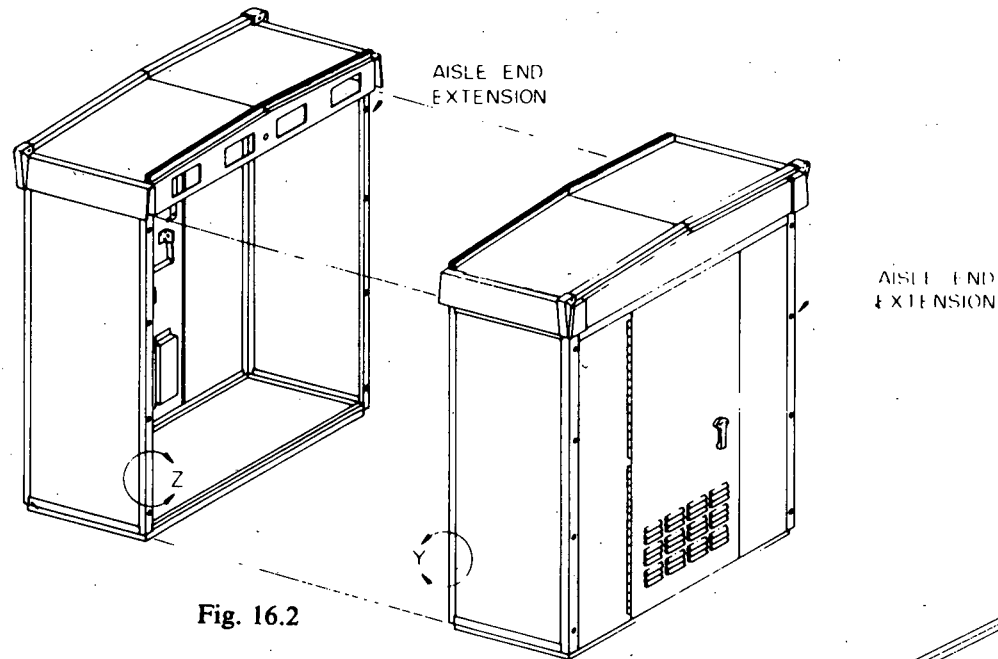
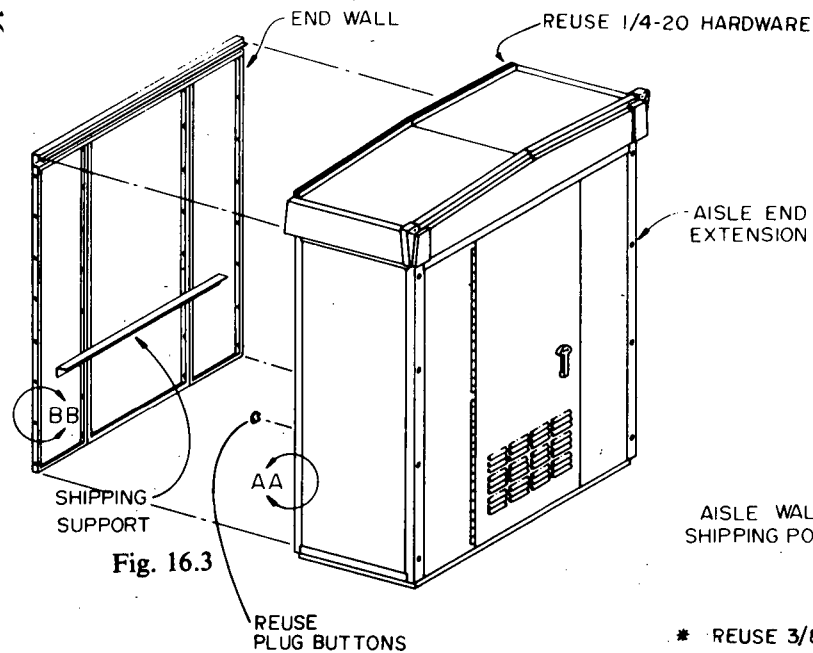

Fig. 16.2
Fig. 16.3
3. For aisle end wall design, disassemble channel cap, cap bushing, roof cap, end trim and corner cap (Fig. 16.3). Reassemble at end of aisle that has the aisle end wall. Re-use 1/4-20 hardware and plug buttons. Fig. 16.8 and detail EE-FF.
4. Disassemble aisle end extensions (Fig. 16.2, detail Y-Z) or aisle end extension and aisle end wall. Fig. 16.3, detail BB & AA. Do not remove shipping support from aisle end wall.
4. For aisle end wall design, disassemble channel cap, cap bushing, roof cap, end trim and corner cap (Fig. 16.3). Reassemble at end of aisle that has the aisle end wall. Re-use 1/4-20 hardware and plug buttons. Fig. 16.8 and detail EE-FF.
5. Disassemble aisle end extensions (Fig. 16.2, detail Y-Z) or aisle end extension and aisle end wall. Fig. 15.3, detail AA & BB. Do not remove shipping support from aisle end wall.